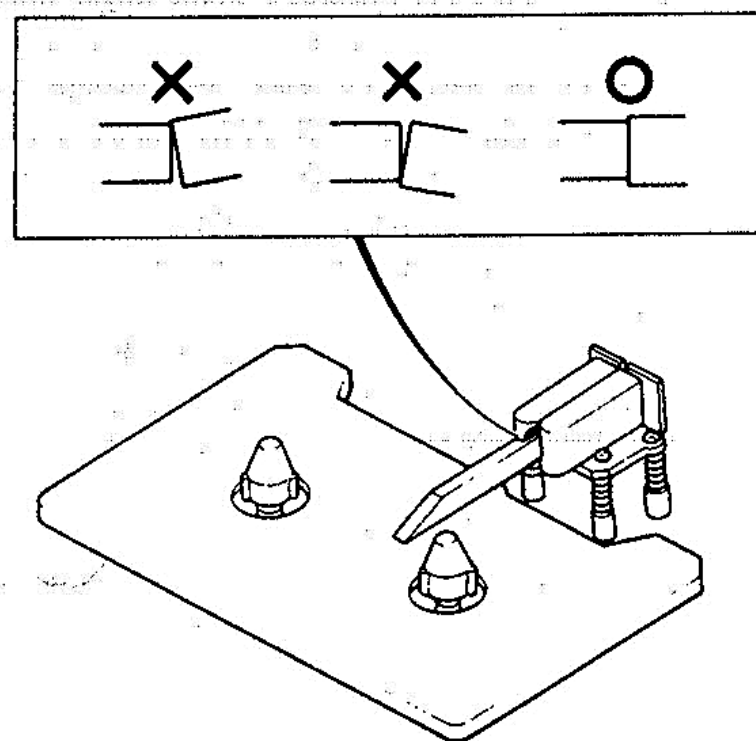

Fig. 2-4
4. Apply jig B to the head as shown in Fig. 2-4 to check head tilt. Adjustment is made by turning screws E and F by the same amount (within a 1/8 turn) until the head is perpendicular to the jig.
- 4) Fig. 2-4の様に治具Bをヘッドに当てて、チルトを確認しヘッドが治具に対して垂直になる様に、ネジE、Fを同量(1/8回転以下)回し調整する。
9. Place jig B as shown in Fig. 2-4 to check the head tilt. Adjustment is made by giving the same amount of turn to screws A and B (within a 1/4 turn) until jig B is perpendicular to the head.
- 9) Fig. 2-4の様に治具Bをヘッドに当てて、チルトを確認しヘッドが治具Bに対して垂直になる様にネジA, Bを同量(1/4回転以下)回し調整する。